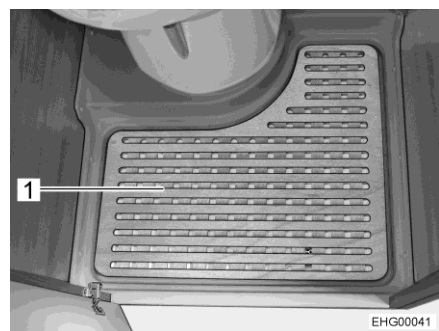

Fig. 70 Removable floor plate
- Take out the removable floor plate (Fig. 70,1) for showering.